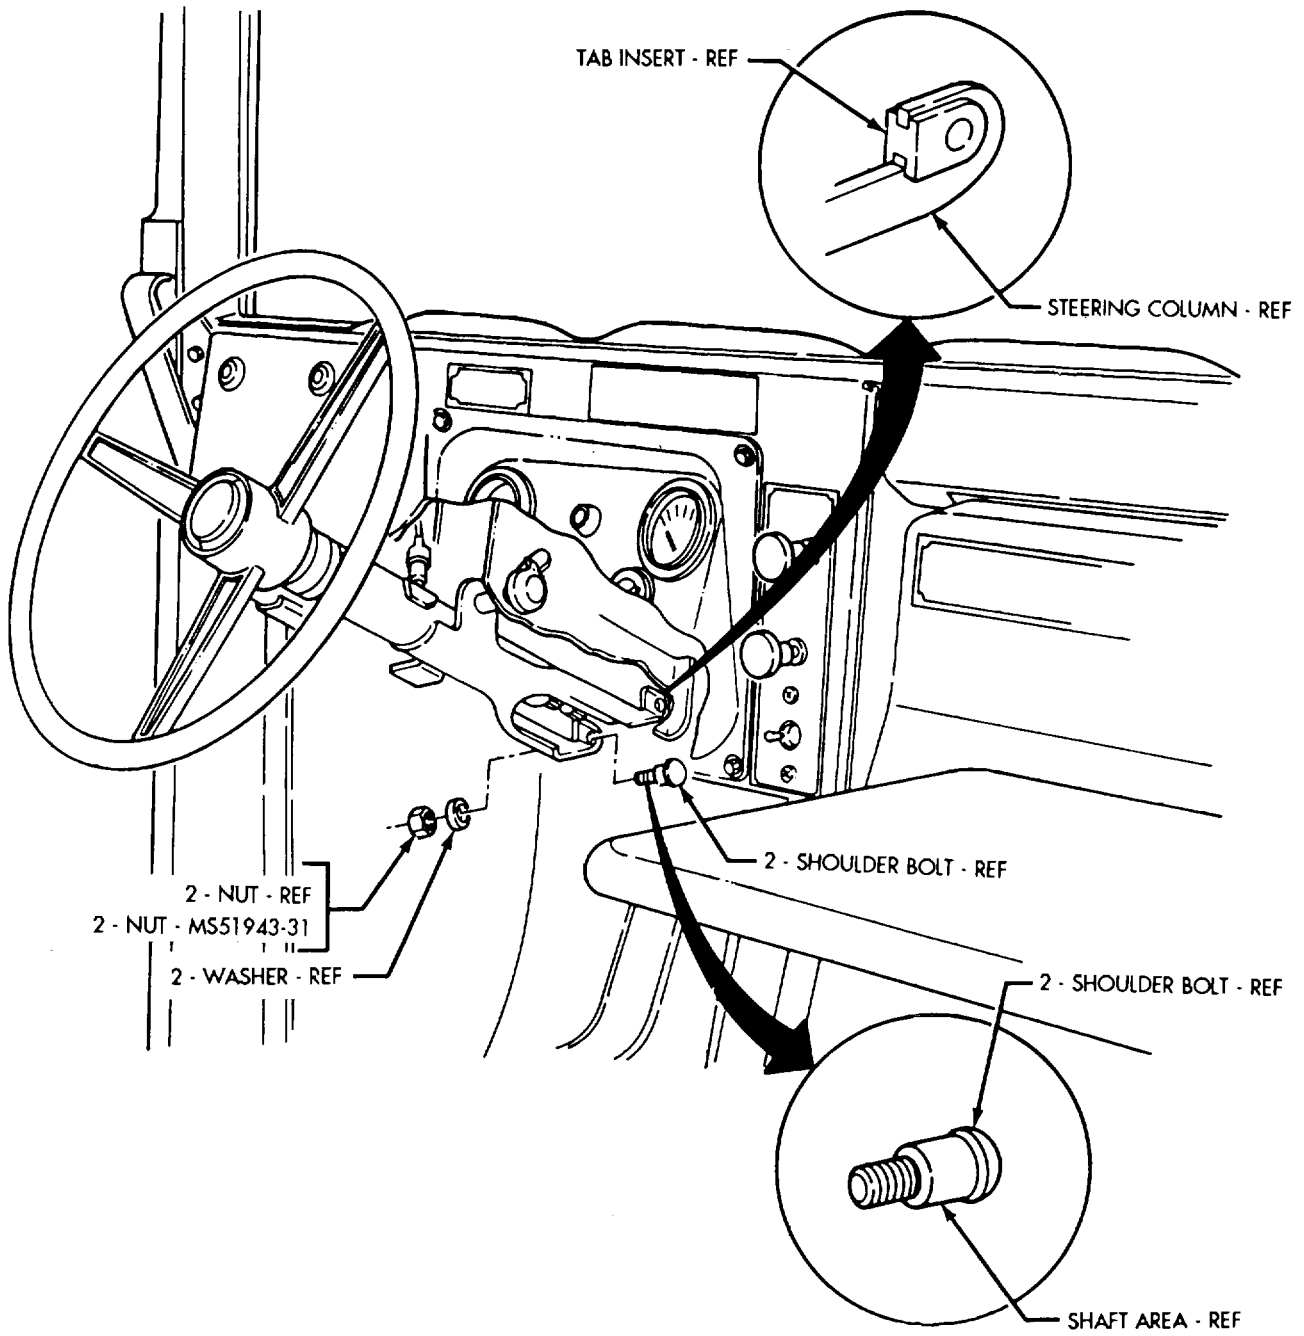

FIGURE 2
- (2) Remove two shoulder bolts, washers, and nuts from steering column as shown in figure 2.
- (3) Check tab inserts at end of steering column for paint and metal cracking as shown in figure 2. If cracking is present on or around tab inserts, discontinue inspection procedure and replace steering column (Refer to TM 9-2320-280-20).
- **Check shoulder bolts removed in step "2" for "mushrooming" around shaft area of shoulder bolt as shown in figure 2. If mushrooming is present, replace shoulder bolts, washers, and nuts (Refer to TM 9-2320280-20).**
- (4) Install two existing shoulder bolts, washers, and two MS51943-31 nuts as shown in figure 2. Tighten nuts to 10 lb-ft (14 N-m).